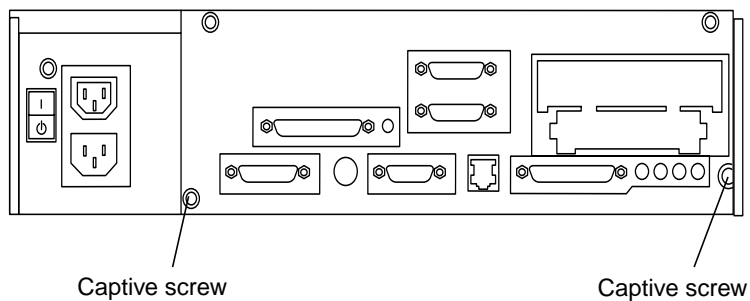

FIGURE 10-2 Captive Screws on the Back Panel
7. Loosen the two captive screws that secure the system board back panel to the chassis (FIGURE 10-2).
- 4. Tighten the two captive screws that secure the system board back panel to the chassis (FIGURE 10-2).**